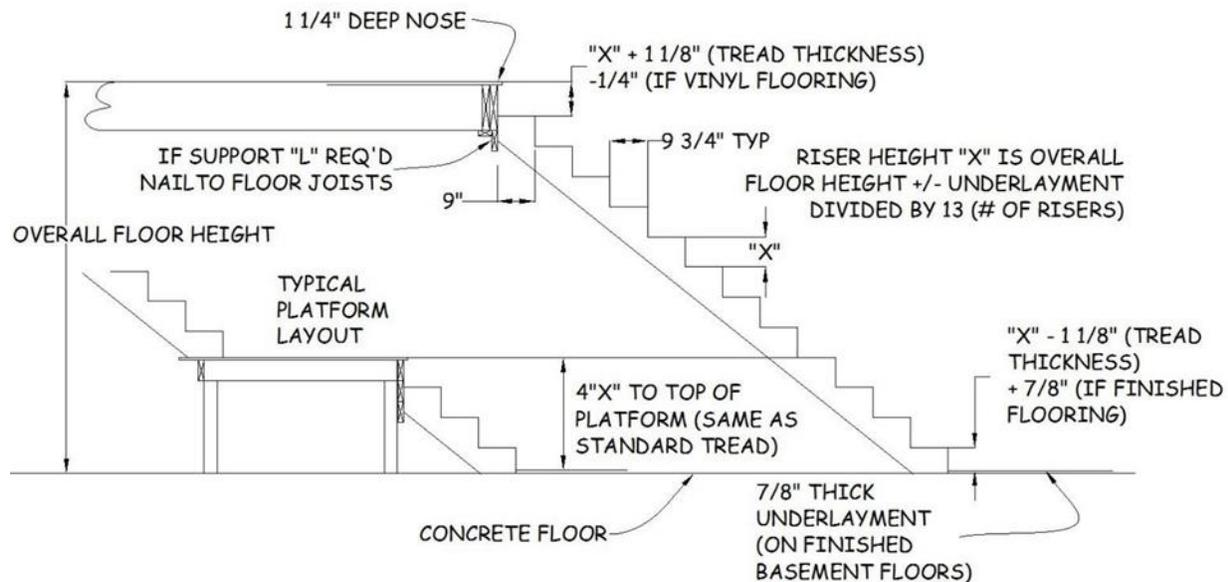

Figure 4-4. Stair Stringer Installation.
4. Reduce the height of the last riser at the bottom of the stringer by $1\frac{1}{8}$ " (the thickness of the tread), unless the basement floor is to be finished. If the basement floor is to be finished, reduce the height of the riser by only $\frac{1}{4}$ ". This will accommodate the $1\frac{1}{8}$ " thickness of the tread and the $\frac{7}{8}$ " thickness of the floor underlayment (see Figure 4-4).
12. Referring to the last calculation in Figure 4-2, mark a line on the rim board-lam beam combination at the top of the stairwell opening below which the tops of the three stringers will be placed (Figure 4-4).
1. A landing, if required, is a “joist” box made of 2x6’s covered with $\frac{3}{4}$ ” floor decking with floor joists installed on 16” centers (see Figure 4-4).